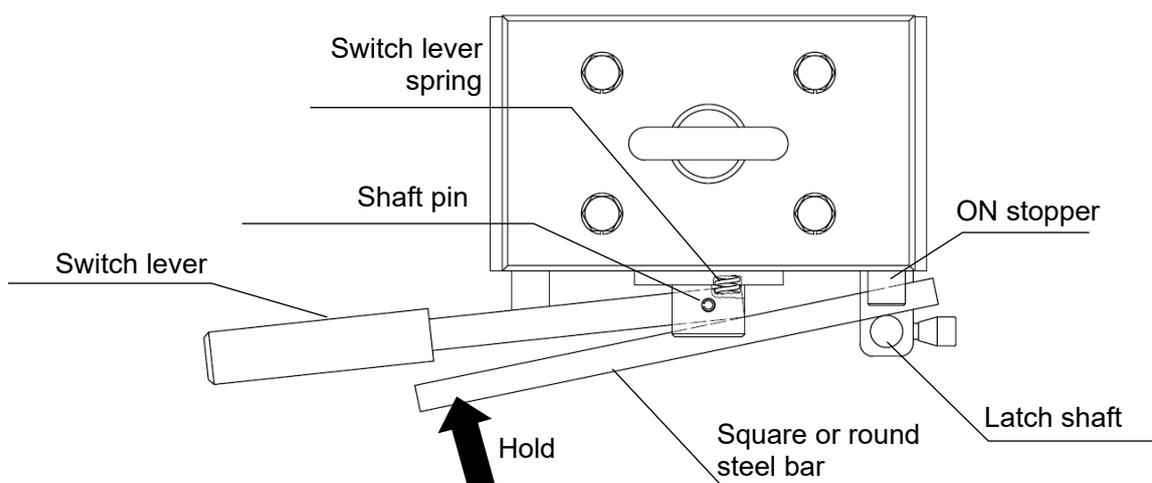

Figure 12-2 Striking the shaft pin
- ◆ For hole alignment, hitch the square  $\square 10 \times 10$  x length approx. 200mm or round  $\Phi 10$  x length approx. 200mm steel bar on the latch shaft, perform the alignment while pressing the switch lever, and then insert the shaft pin as shown in Figure 12-2.
- Mount the switch cover. (Refer to (1) Switch cover, 2) Mounting.)